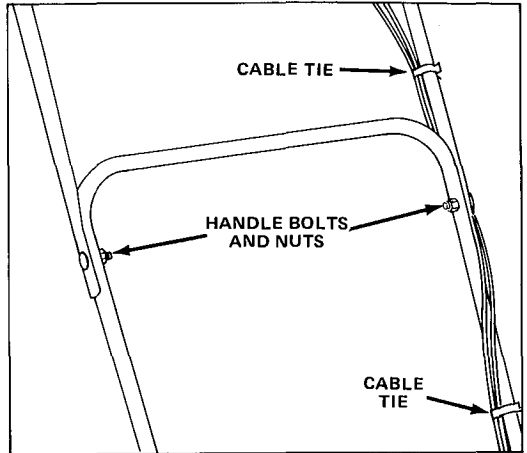

Figure 2
2. **UPPER HANDLE** (Fig. 2) — Secure upper and lower handles in place with handle bolts and nuts. Secure control cables in position with cable ties.